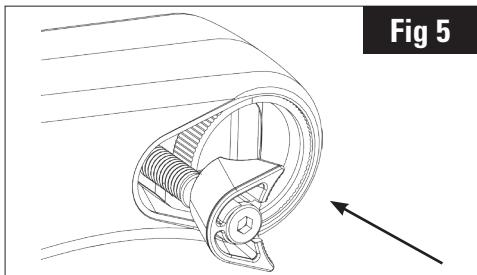

Fig 5
4. Fit the buffer + screw assembly (12 +14 +15) in its housing in the stem body (Fig. 5).